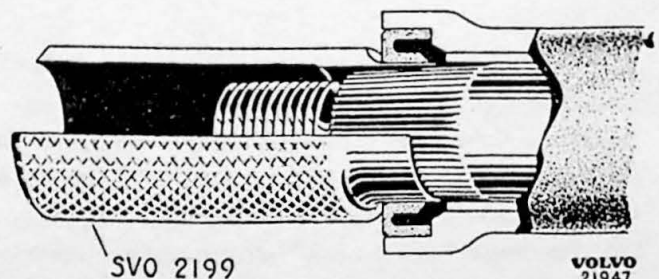

Fig. 6-27. Fitting the pitman arm shaft
6. Apply sleeve SVO 2199 as shown in Fig. 6-27 and fit the pitman arm shaft in the steering box. Lubricate the adjusting screw in the pitman arm shaft with a few drops of oil.